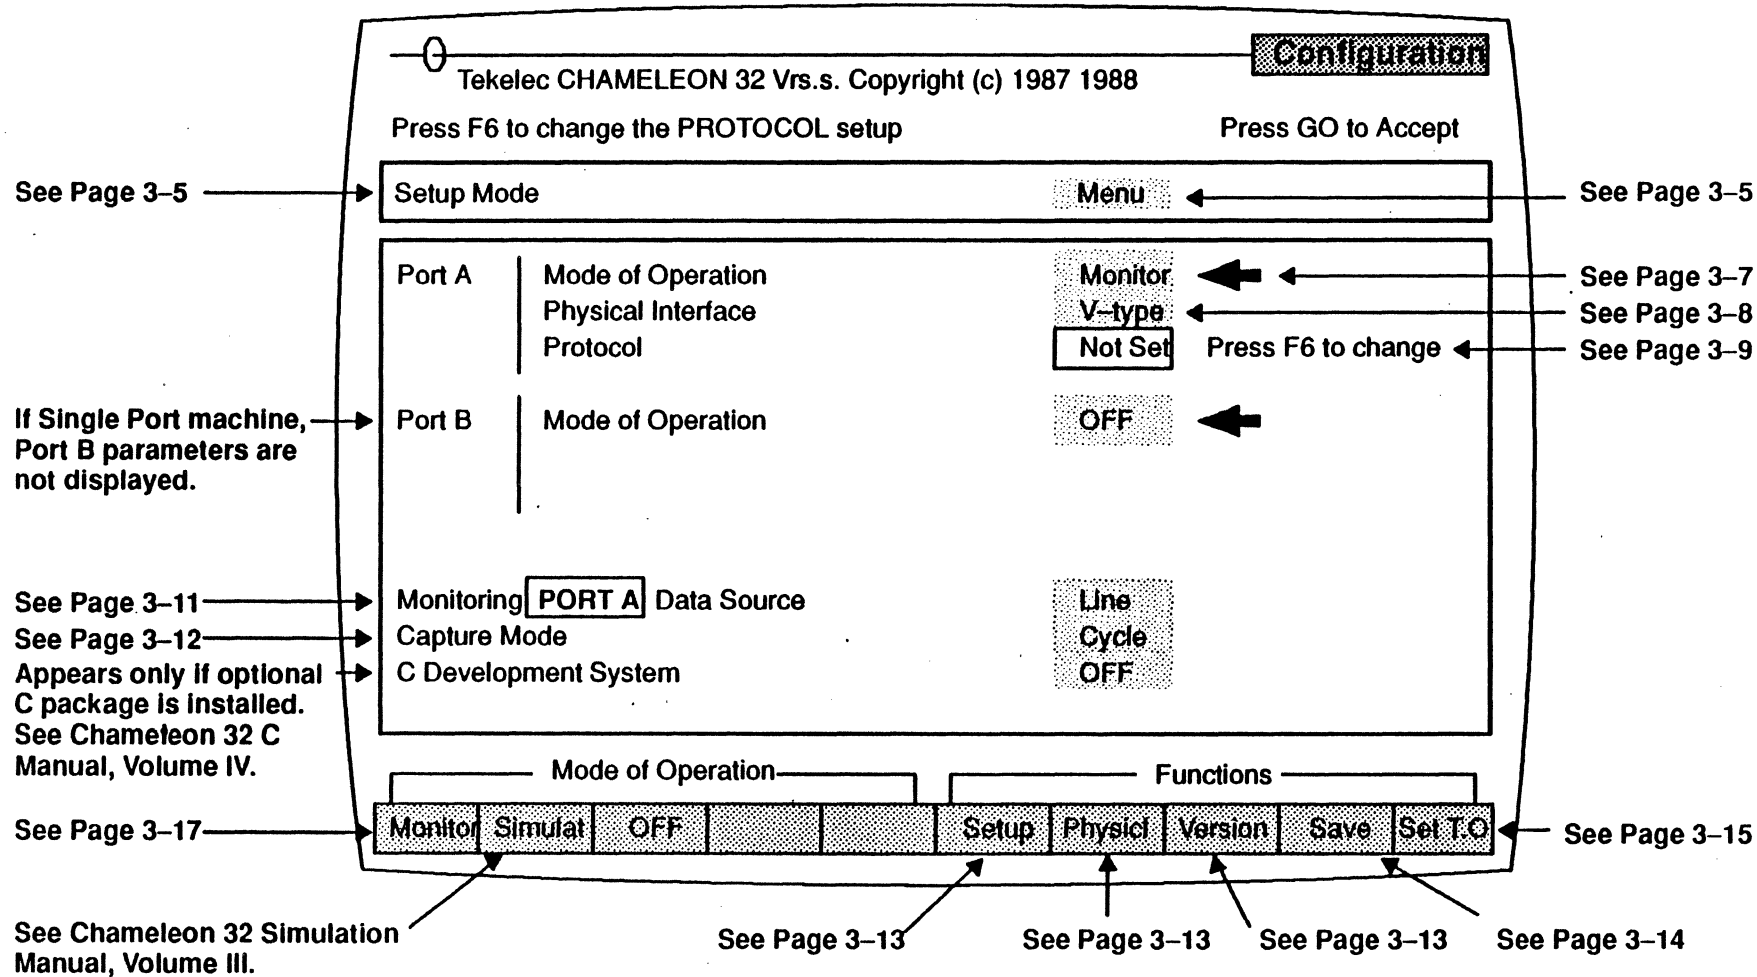

Figure1.5: Menu Setup Mode (Dual Port)
11. After the system software is booted, a Configuration page appears (Figure 1.5). If this menu is not displayed, it indicates that your Chameleon 32 has been previously configured.